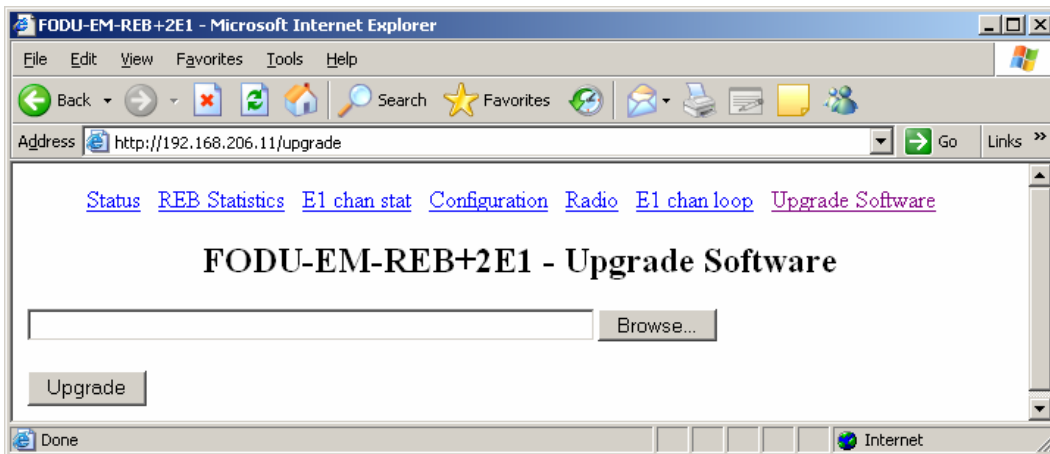

Figure 11
- Open 'Upgrade Software' page (Figure 11),